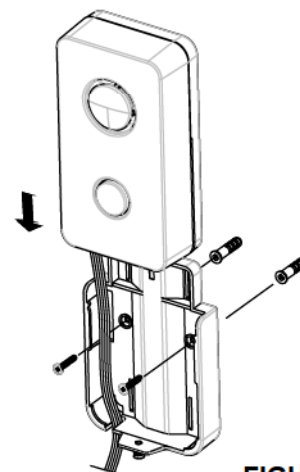

FIGURE 3
4. Slide the base down to the bracket (FIGURE 3).